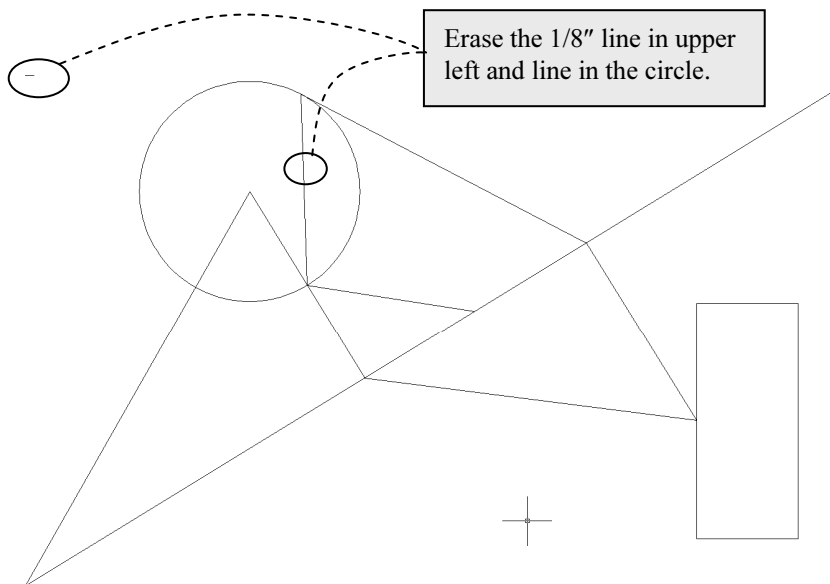

Figure 2-3.2
4. [Notice the *Command* line is prompting: **Select objects:**] Use the mouse to select the lines identified in **Figure 2-3.2**.